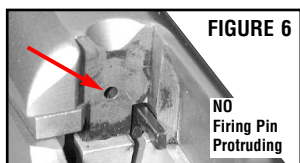

FIGURE 6
- Check the barrel chamber to verify it is unloaded and check the bore visually for any obstructions (Figure 4). Examine the breech face (Figure 6) to ensure that the firing pin is not protruding from the breech face. (Figures 6 & 7) If it is protruding, do not attempt to load or fire the firearm. Bring the firearm to a gunsmith qualified to perform service on Smith & Wesson firearms.
- Check the barrel chamber and bore visually for any obstructions. Examine the breech face (Figure 6) to ensure that the firing pin is not protruding from the breech face (Figs 6 & 7).